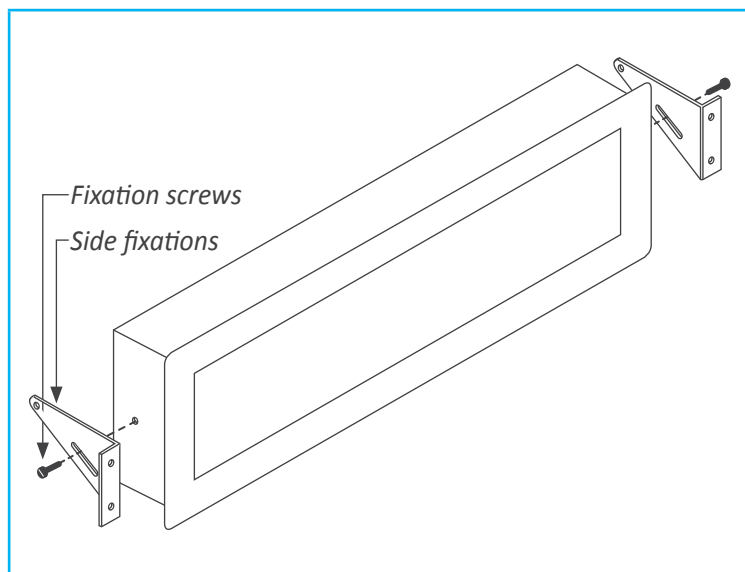

Figure 12 - Panel mount
- Panel mount. Apply the cut-out to the panel as seen on section 1.4. Remove the side fixations. Introduce the instrument into the panel cut-out. Mount the side fixations as shown (see Figure 12). Slightly loosen the fixation screw of one side and press the instrument against the panel. Tighten the fixation screw so it presses the panel and maintains the fixation. Repeat with the opposite side fixation. For IP65 protection at the panel junction, see the IPB accessories at section 3.